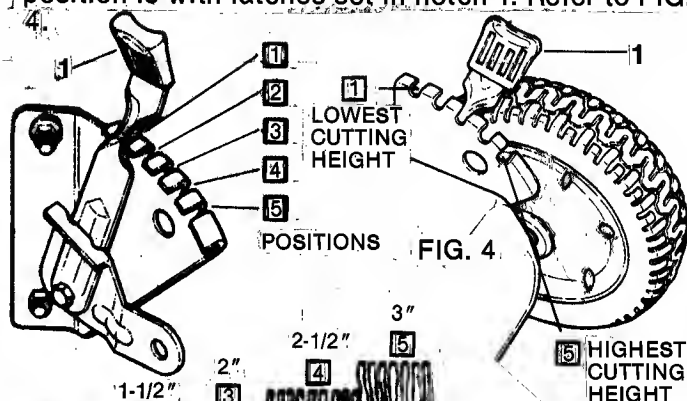

FIG. 4-A
- CHECK** cutting height and adjust as needed, to suit the prevailing grass conditions. Refer to FIG. 4.
During dry seasons, allow the grass to grow taller than normal. Refer to FIG. 4-A.
NOTE: The highest cutting position is attained with the four latches set in notch 5. The lowest cutting position is with latches set in notch 1. Refer to FIG. 4.